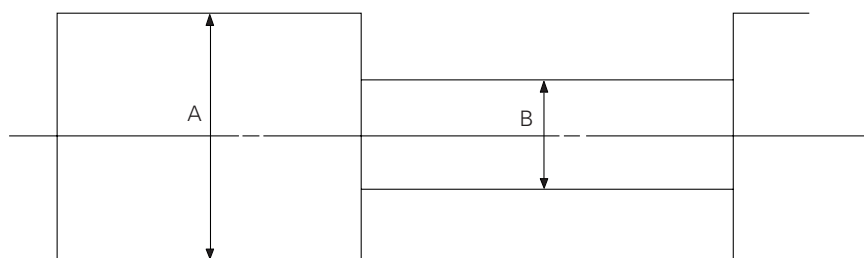

Fig. 3-15 Envelope Input and Output Level
- 4) If the section A in Fig. 3-15 does not meet the specification, adjust the guide roller S up or down.
- 5) If the section B in Fig. 3-15 does not meet the specification, adjust the guide roller T up or down.
Make sure the playback output envelope meets the specification as shown in Fig. 3-15.